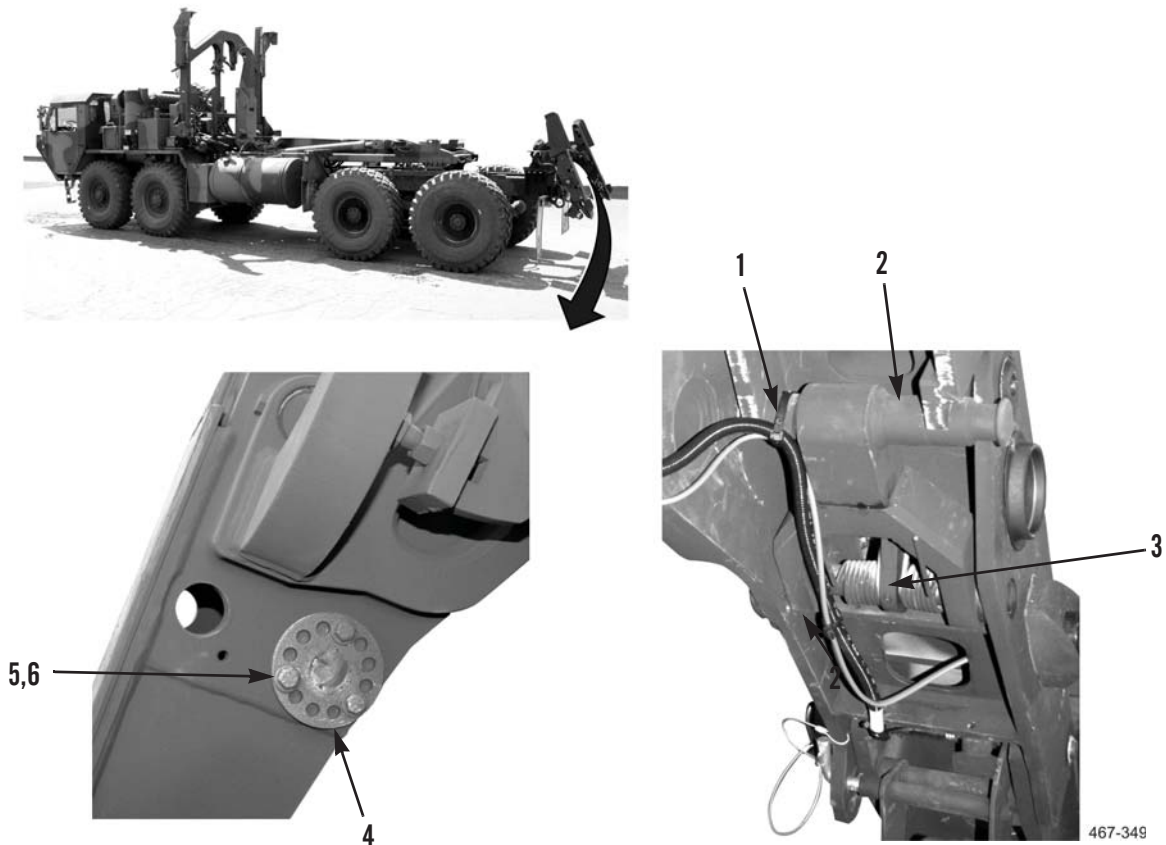

Figure 4. Clamping Device Installation.
5. With assistance and while supporting clamping device handle (Figure 4, Item 2), apply pressure to plate (Figure 4, Item 3) to position holes as marked during removal, and place punch in one hole to prevent shaft movement.
6. Install three washers (Figure 4, Item 5) and bolts (Figure 4, Item 6) in shaft (Figure 4, Item 4).
7. Install new tiedown straps (Figure 4, Item 1) as required.